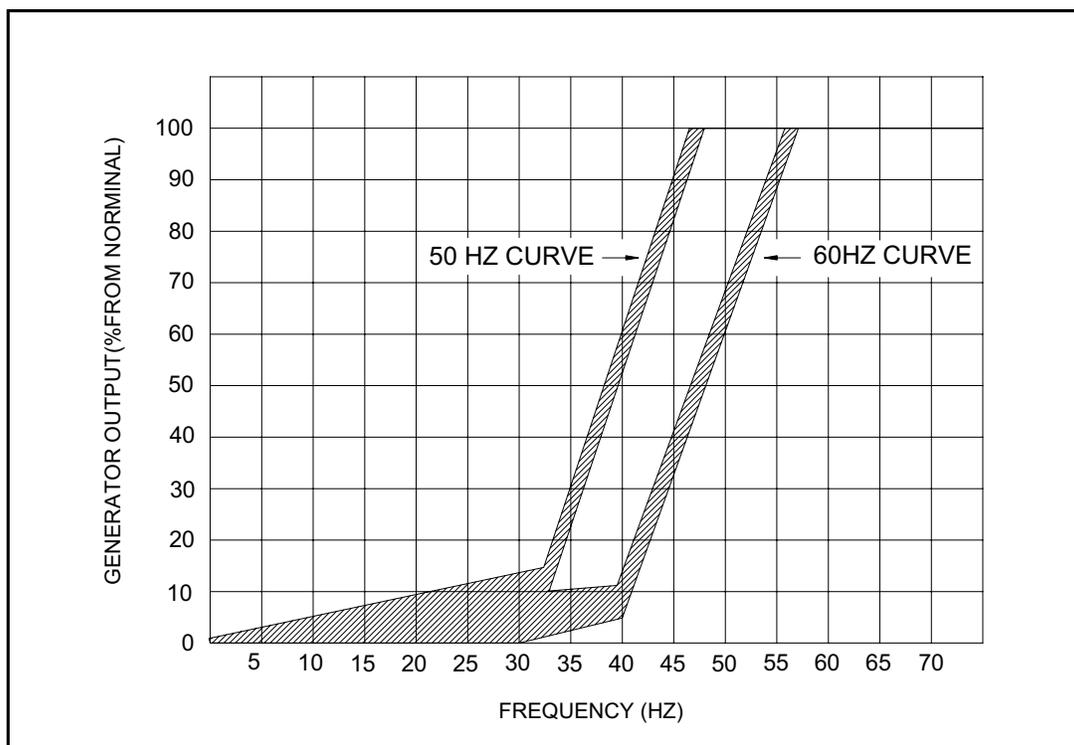

Figure 1-1 Frequency Compensation Curves.
1-3 FREQUENCY COMPENSATION (See Figure 1-1)
- a. The frequency compensation characteristic of Figure 1-1 used to improve system load pickup performance by restraining voltage recovery until frequency has also started to recover.